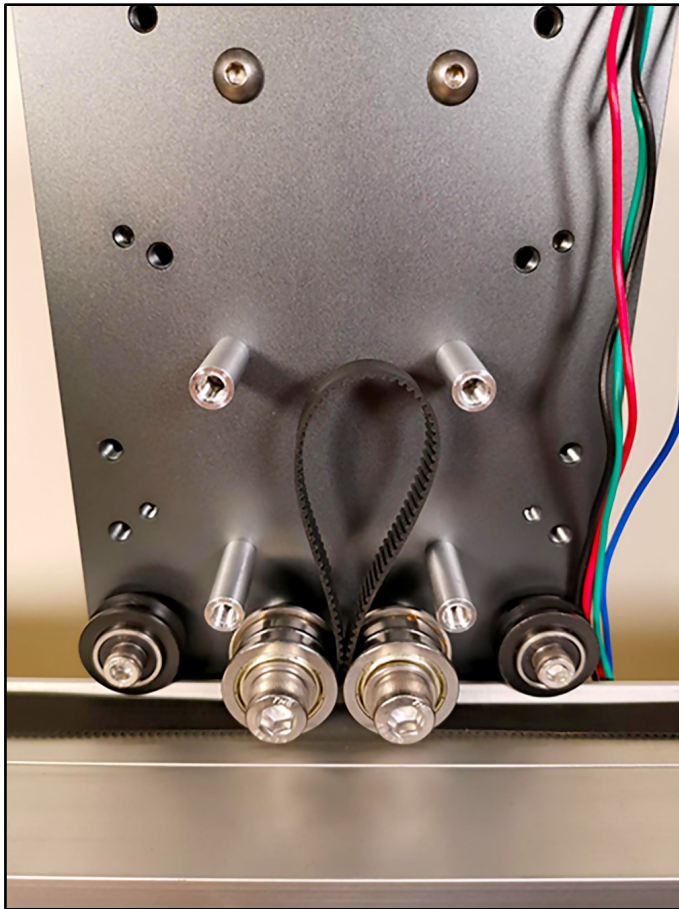

Figure 11
- M5 x 10mm Screw (4)
2. Create a large loop between the idlers. See *Figure 11*.